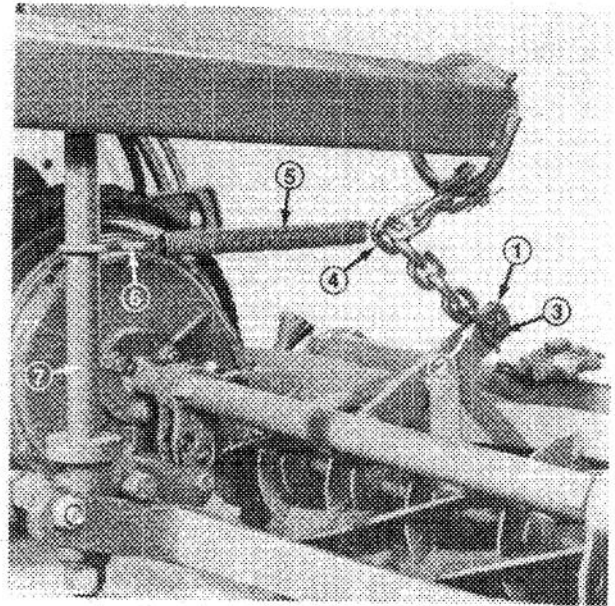

Figure 18
5. On remaining mowers, secure lift chains to mower mounting bracket with long shackles, clevis pins and cotter pins (Fig. 18).
6. Hook spring to fifth link in chain from mower and secure other end of spring to lift bail with S-hook (Fig. 18).